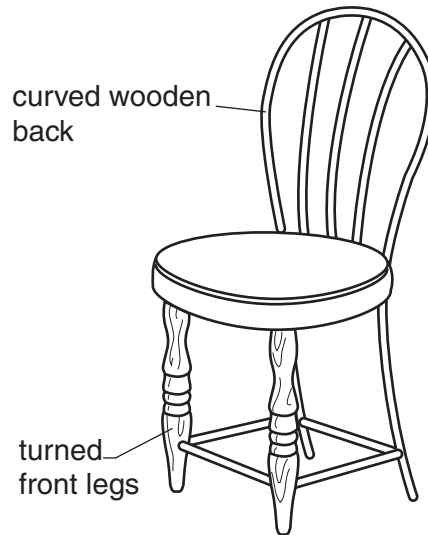
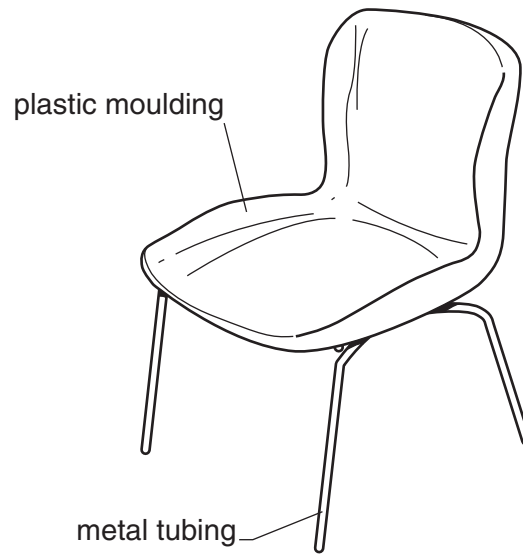

Fig. 6
Fig. 7
- 9 Fig. 6 shows a chair made from wood with an upholstered seat.
When considering what type of chair to use in a school the chair shown in Fig. 7 rather than the wooden one shown in Fig. 6.